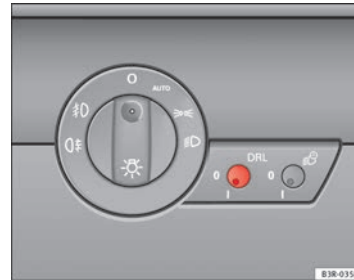

Fig. 87 Daytime running lights switch
- Briefly press the knob => Fig. 87 to release it from its set position.